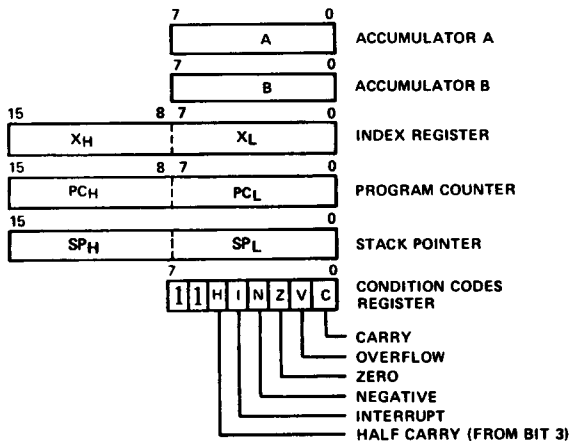

Fig. 9.3 M6800 registers
9.2. It features six internal registers (see Fig. 9.3), that users must be concerned with, as follows: